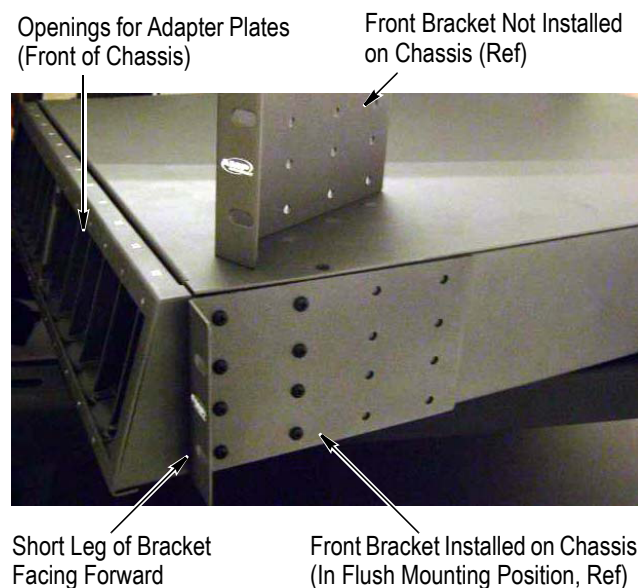

Figure 3
3. Using the 6-32 UNC-2A screws, install the 2 front brackets onto the chassis (8 screws per bracket, 1 bracket per side of chassis). Make sure that the short leg of each bracket is facing forward. Tighten the screws. See Figure 3.